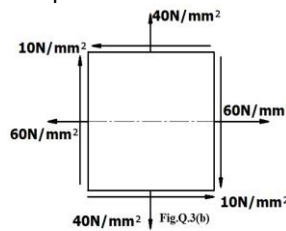

Figure 10
8. The plane element is subjected to stresses as shown in the **Figure 10**. Determine principal stresses .Maximum shear stresses and their planes. Sketch the plane determined